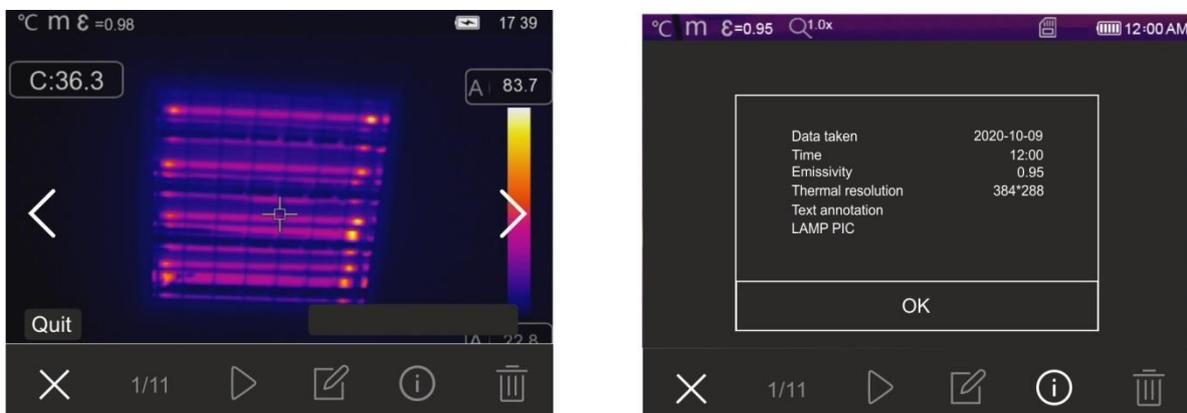

Fig. 47: Recalling on the display the images saved
1. Press key to enter the gallery of the images and videos saved in the instrument's memory or on the micro SD card. The following screen in Fig. 47 – left side is shown on the display
3. Touch the icon “i” to open the section containing the information about the saved image. The screen in Fig. 47 – right side appears on the display.